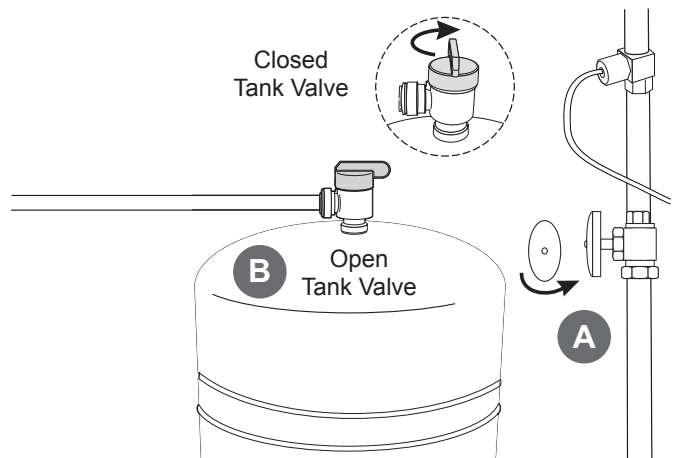

Figure 14
- Make sure cold water faucet is "off" (Figure 14).
- A. Make sure cold water faucet is "off" (Figure 14).